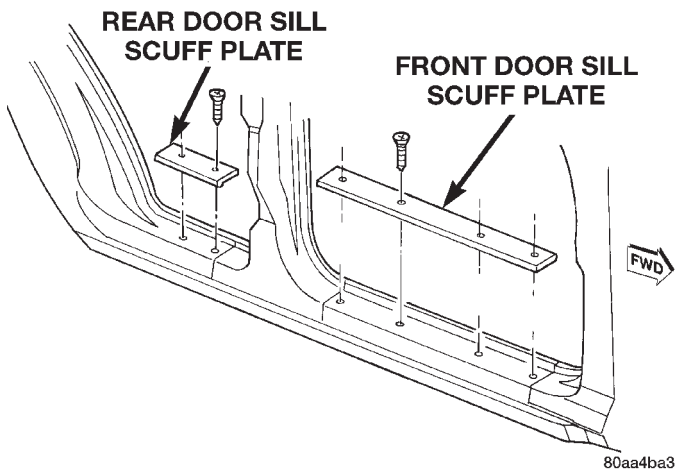

Fig. 68 Door Sill Scuff Plate
- (1) Remove the screws attaching the door sill scuff plate to the door sill (Fig. 68).
- (2) Separate the scuff plate from the door sill.